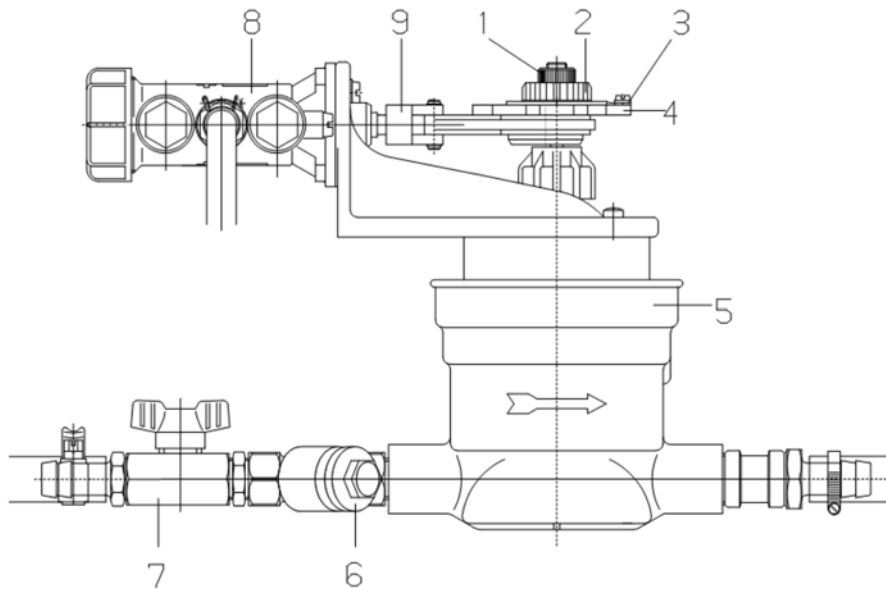

Fig. 6: Setting of the concentration
2. ➤ Loosen the knurled knob ( ↪ Chapter 6 'Setting and start-up' on page 28, Fig. 6, pos. 1) from the excenter approx. 5 mm.
3. ➤ Pull out the scale plate (Fig. 6, pos. 2) from the excenter wheel notches and hold scale plate.
4. ➤ Set the excenter wheel (Fig. 6, pos. 4) to the desired concentration value on the scale plate.
5. ➤ Loosen the arrestor screw (Fig. 6, pos. 3) and adjust the arrow of the red marker to the preset scale value.